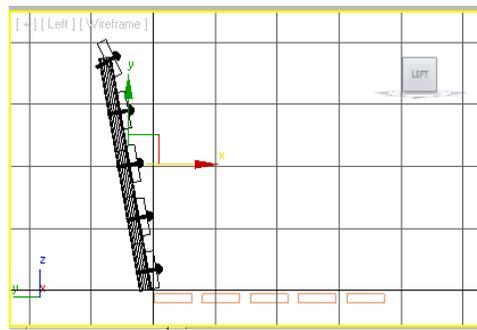

Figure 2-75 Alignment of back support in the Left viewport
3. Choose the **Select and Move** tool and align *back support* with *horizontal seat support*, as shown in Figure 2-75.